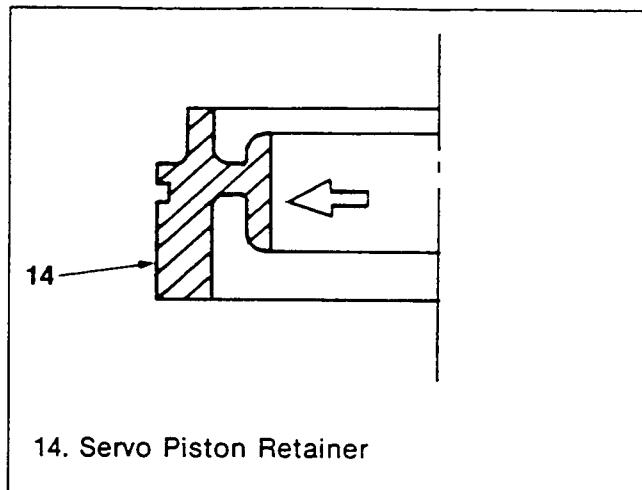

Figure 212. Servo Piston Retainer Check
**Servo Piston Retainer (Figure 212)**